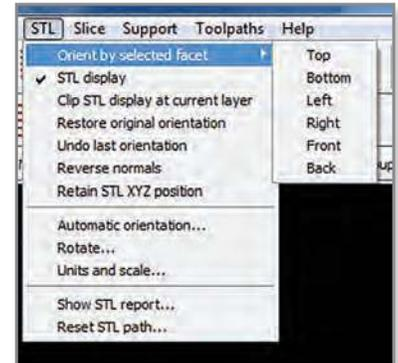

Figure 4: Orientation options based on a selected facet can be found in the STL menu.
STEP 4: In the **STL** dropdown menu, select **Orient by selected facet** and select the desired context (**Top**, **Bottom**, **Left**, **Right**, **Front** or **Back**) (Figure 4).